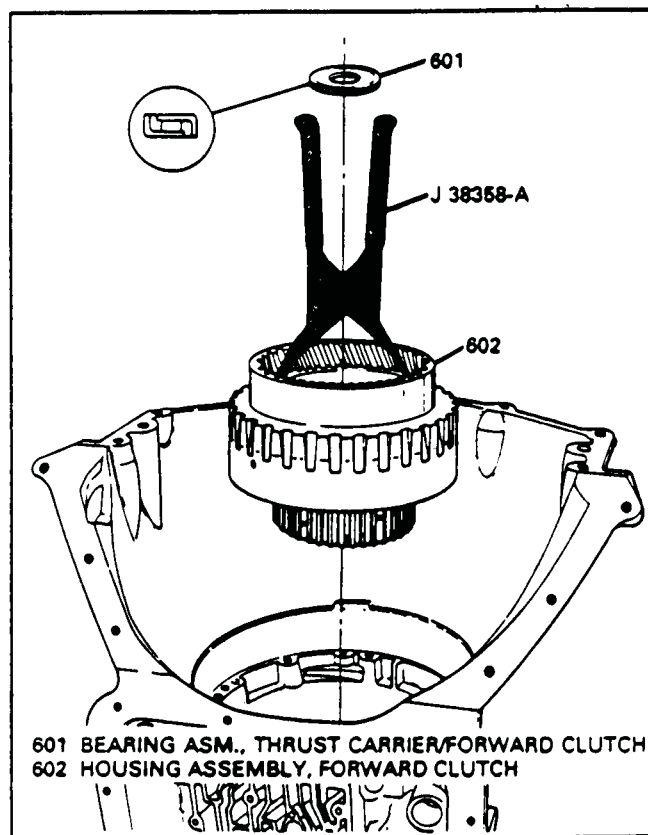

Figure 86
26. Install the thrust bearing (601) shown in Figure 86, and retain with petrolatum.
27. Install the forward clutch housing, as shown in Figure 86, using tool J-38358-A into transmission by rotating back and forth until fully seated into place.